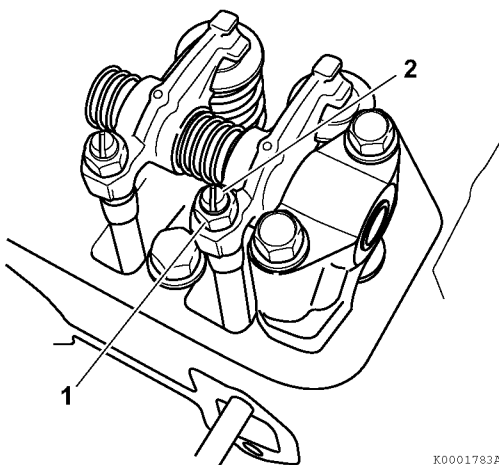

Figure 6-36
5. Loosen the valve adjusting screw lock nut (1, **Figure 6-36**) and valve adjusting screw (2, **Figure 6-36**) on the rocker arm. Check the valve for inclination of the valve cap, entrance of dirt, or wear.
6. Insert a feeler gauge of the correct thickness (1, **Figure 6-37**) between rocker arm and valve cap. Turn the valve adjustment screw to adjust the valve clearance so there is a slight "drag" on the feeler gauge when sliding it between the rocker arm and valve cap. Hold the adjusting screw while tightening the valve adjusting screw lock nut (1, **Figure 6-36**). Recheck the clearance (see *Adjustment Specifications on page 6-4*).